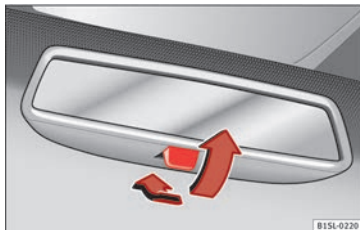

Fig. 145 Manual anti-dazzle function for rear vision mirror
- Pull the lever to the back to select the anti-dazzle function » **Fig. 145**.